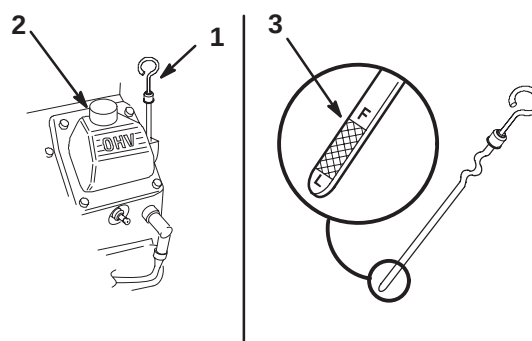

Figure 37
2. Clean around the oil dipstick (Fig. 37) so dirt cannot fall into the filler hole and damage the engine.
3. Pull the oil dipstick and wipe the metal end clean (Fig. 37).
4. Slide the oil dipstick fully into the filler tube. Pull the dipstick out and look at the metal end (Fig. 37). If oil level is low, slowly pour only enough oil into the filler tube to raise the level to the full mark.